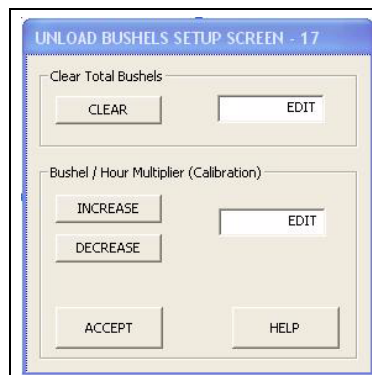

Figure 5V
5. **BPH Calibration:** The  button will display the “Unload Bushels Setup” screen. (See Figure 5V.) The bushel counter can be cleared by touching the “Clear” button. The bushel counter can be calibrated by touching the “Increase” and “Decrease” buttons.